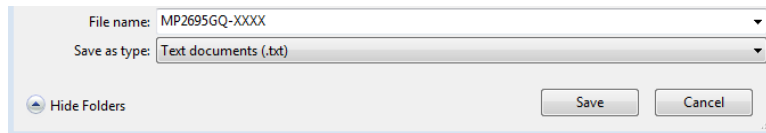

Figure 11: Exporting to a Selected Location
6. Find a location for the exported file and click “Save.” Configurations will be saved in a .txt file (see Figure 11).